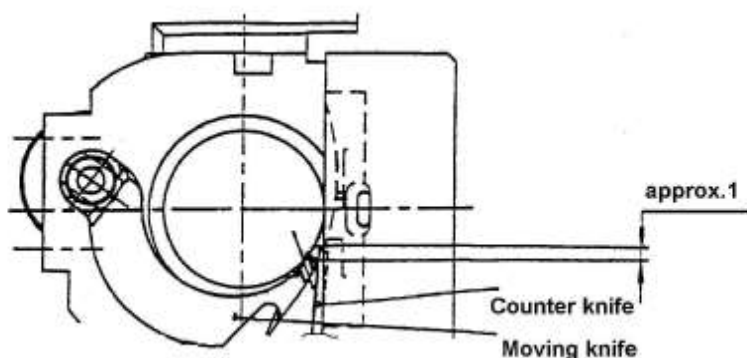

Fig.16
**20 To adjust the initial position of the moving knife (Fig.16)**